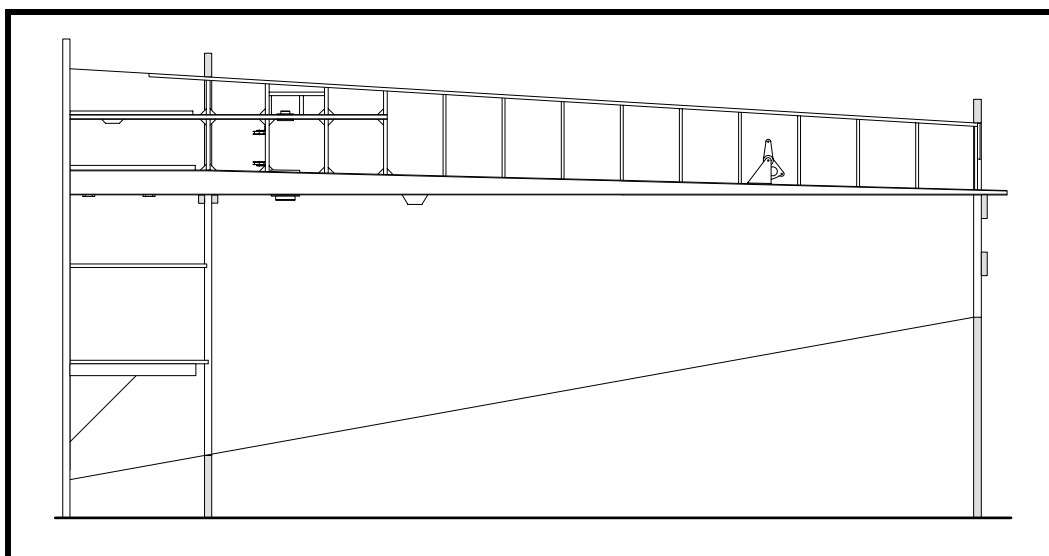

Figure 10
- ❑ Install the framing for the landing gear inspection doors. See Figure 10. Do not install the corner blocks at this time.